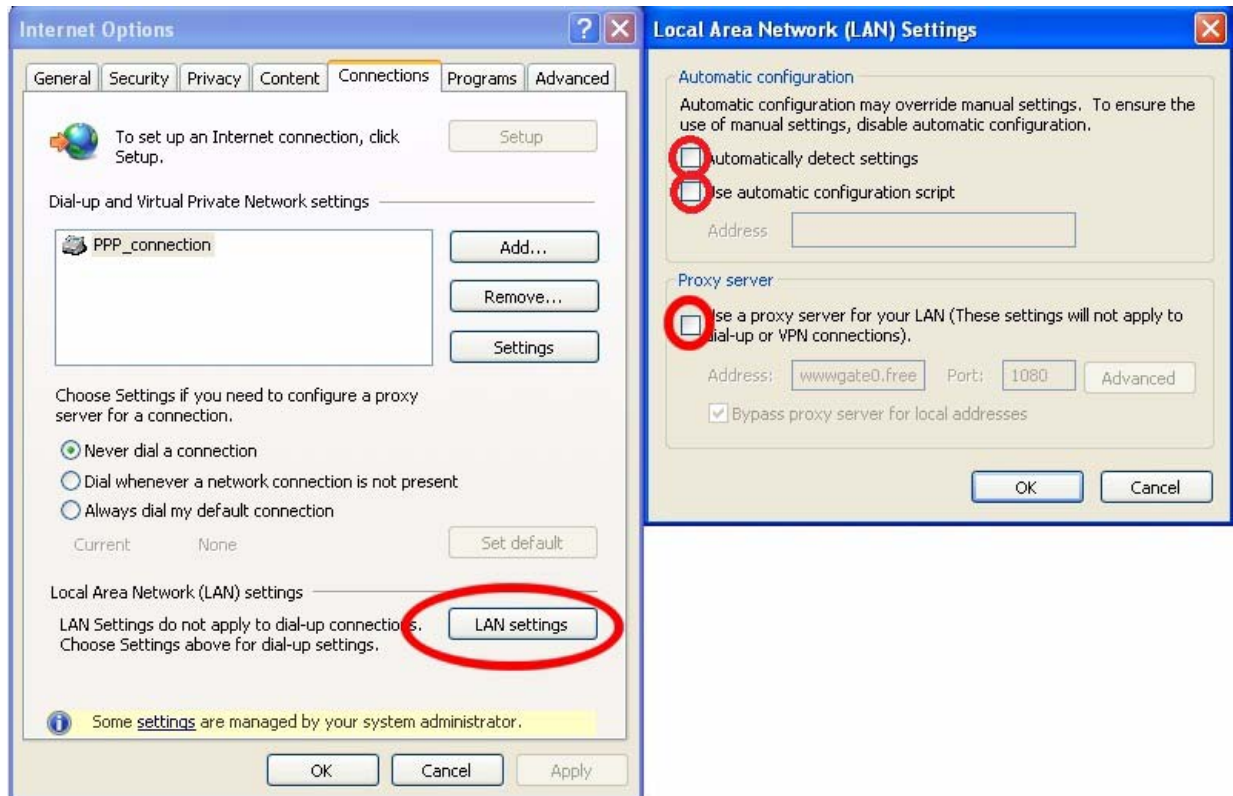

Figure 7. Configuration of MS Internet Explorer for demo control
9. Disable the proxy server, unchecking the box, as shown in Figure 7.